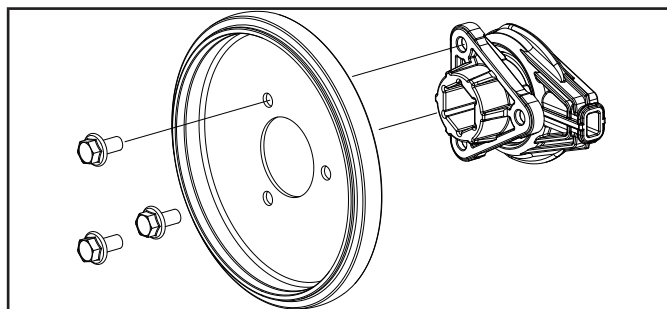

Figure 48
7. Unscrew the three M6 × 16 bolts of the friction disc assembly to discard the worn friction wheel rubber ring and replace with a new one (Fig. 48).